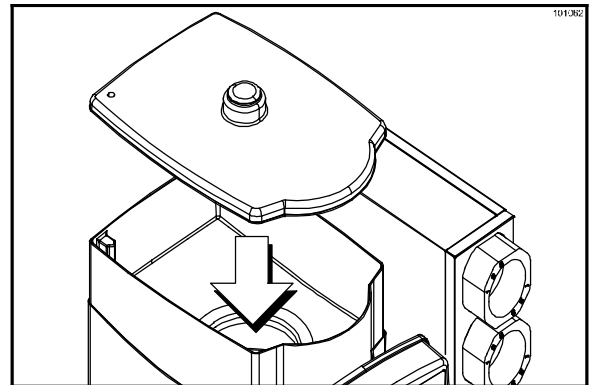

Figure 105
- Reinstall the ice hopper and the ice hopper cover. (See Figure 105.)